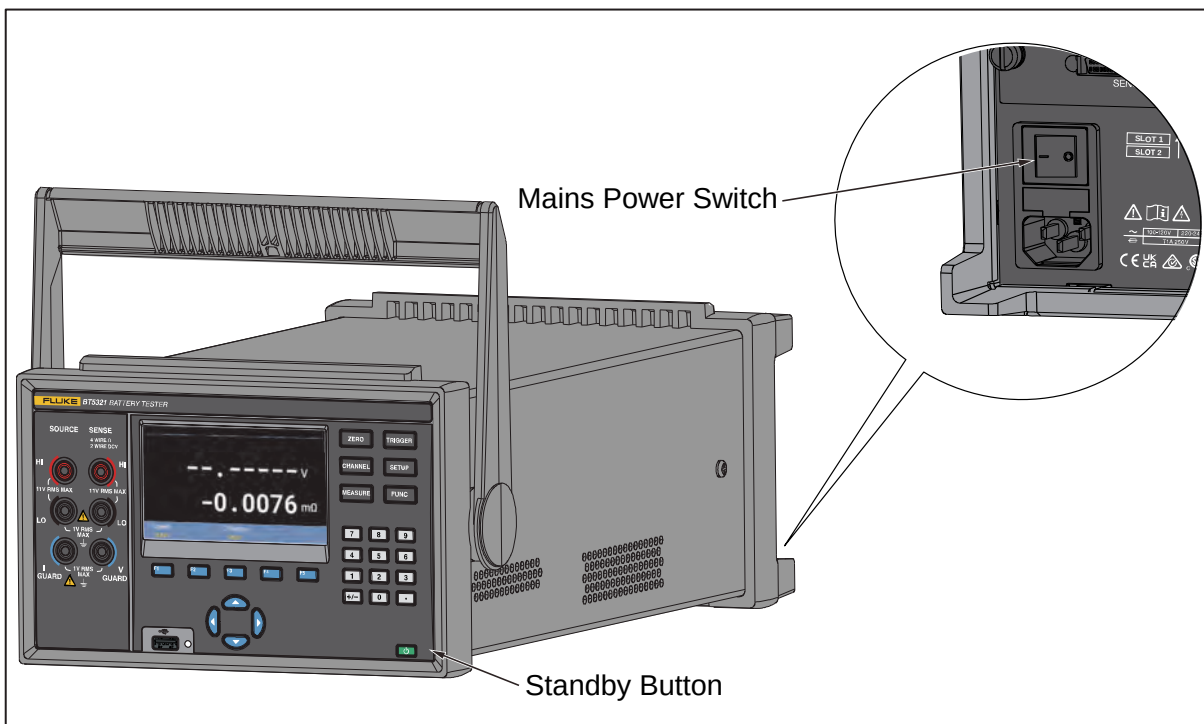

Figure 7. Power on and standby
As shown in Figure 7, the Product has a mains power switch located on the rear panel that supplies power to the unit, and a Standby key (ⓘ) on the front panel that put the Product in the standby mode. Push the (I) side of the mains power switch to power on the Product. As the Product powers on, a startup screen is shown on the display while the Product perform a self-check. If the Product detects any errors, an error message is shown on the screen that contains the error description along with an error code to help troubleshoot the problem.